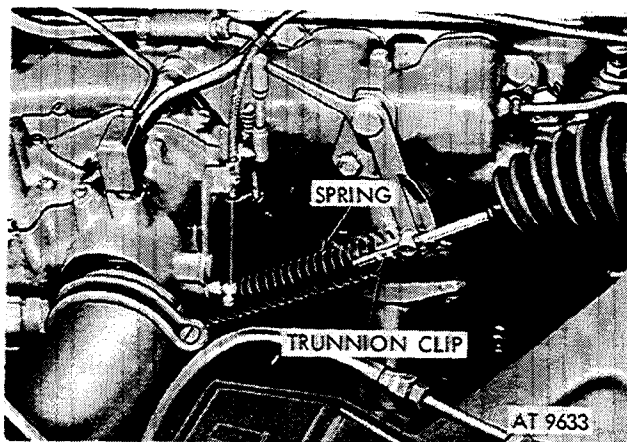

Figure 2-99. Remove spring and trunnion clip.
(1) Remove accelerator pedal return spring and trunion retaining clip (fig. 2-99).
c. *Adjustment.* Adjust threaded trunion on accelerator pedal rod (fig. 2-99) to obtain wide open throttle at carburetor with  $\frac{1}{4}$  inch clearance under accelerator pedal pad. Obtain the adjustment as follows: With the accelerator rod disconnected at the bellcrank, pull hand throttle out until accelerator pedal rests on floorboard. Block carburetor to full open position. Adjust threaded link to a slip fit in bellcrank. Turn link approximately one full turn to the right, and reassemble.